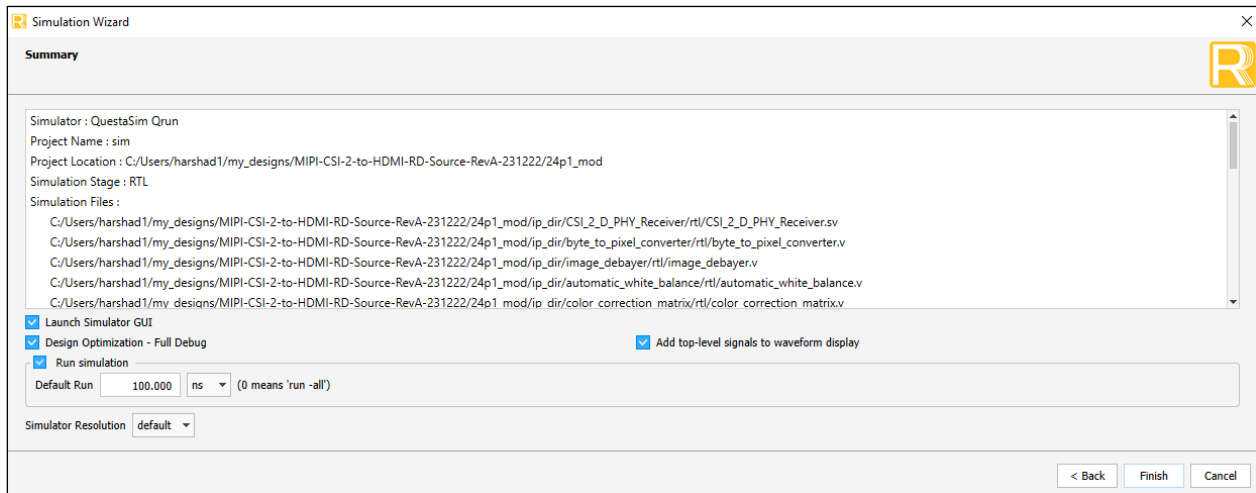

Figure 4.12. Run Simulation Value of 0 to Run All Simulations
- You can change the simulation time to **0 ns** to run all the simulations as shown in Figure 4.12. Click the *Finish* button to run the simulation.